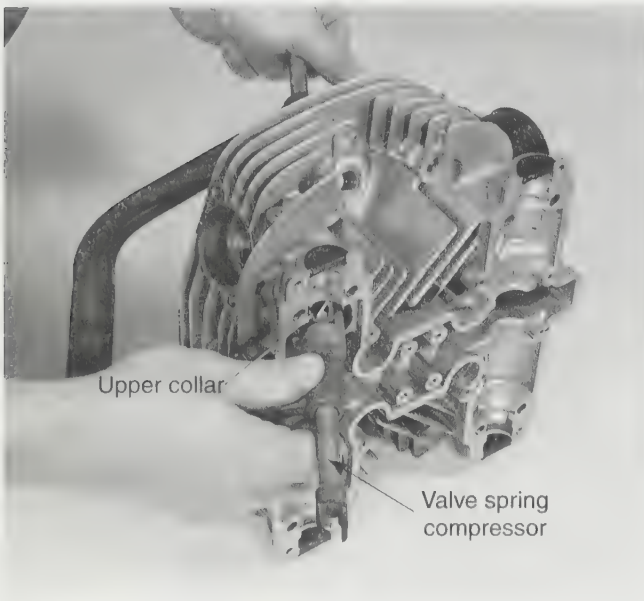

Figure 20-29. A valve spring compressor pushes the top collar and valve spring down so keepers can be installed.
5. Use a valve spring compressor to assemble upper spring collar and keepers, **Figure 20-29**.